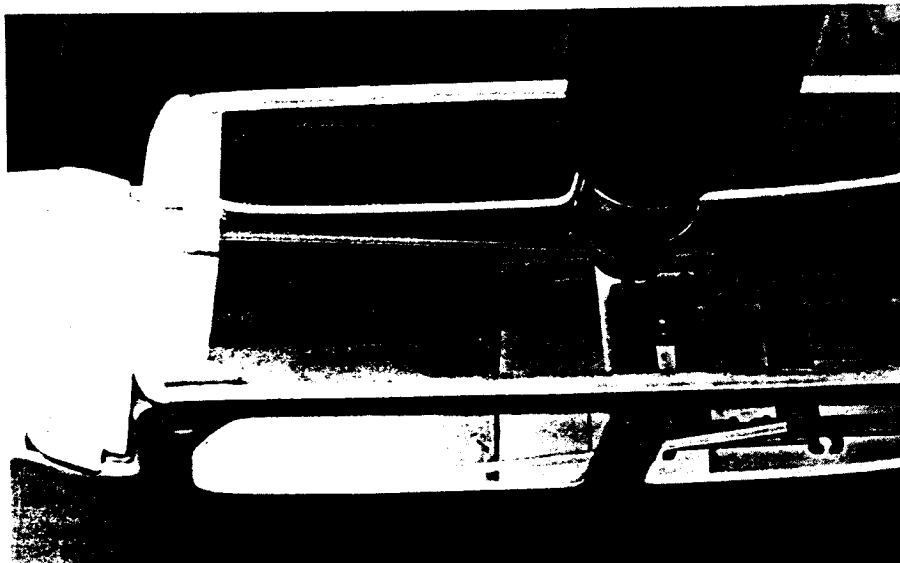

Fig. 4-12. If you're using a plastic tray, use it as a guide to drill the rail's mounting holes.
3) If you use a plywood tray, I suggest that for added security you epoxy it in place, rather than fastening it with wood screws. This makes installing servos less convenient, but I think it's a good trade off. If you use a plastic tray, you'll have to screw it to the rails as shown in Fig. 4-12.